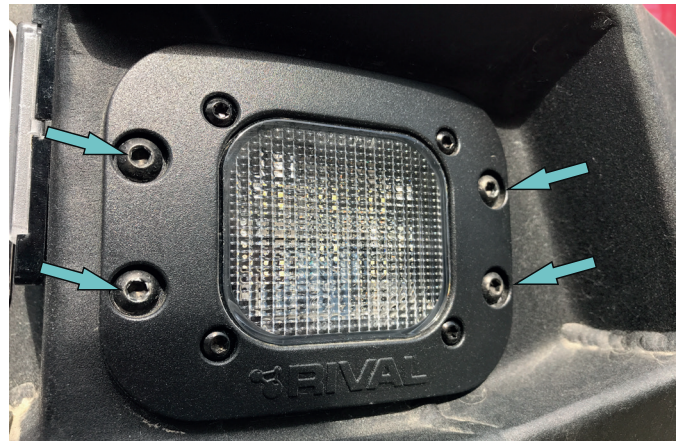

Fig. 26
27. Install LED lights or Lamp plug (item 16), using screws M6, washers 6 and nuts M6 (item A, E, I) (Fig.26).